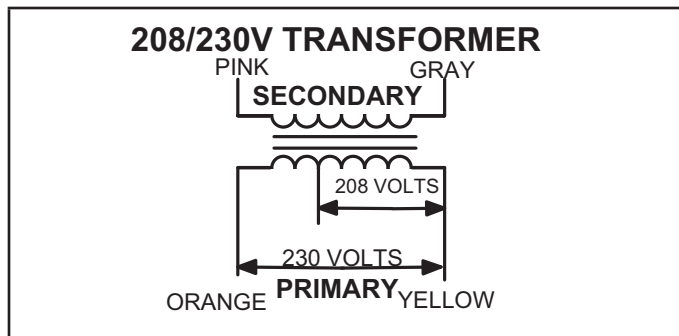

FIGURE 3
All use a single line voltage to 24VAC transformer mounted in the control box. Transformer supplies power to control circuits in the unit. The transformer is rated at 70VA and is protected by a 3.5 amp circuit breaker (CB8). The 208/230 (P & Y) voltage transformers use two primary voltage taps as shown in FIGURE 3, while 460 (G) and 575 (J) voltage transformers use a single primary voltage tap.